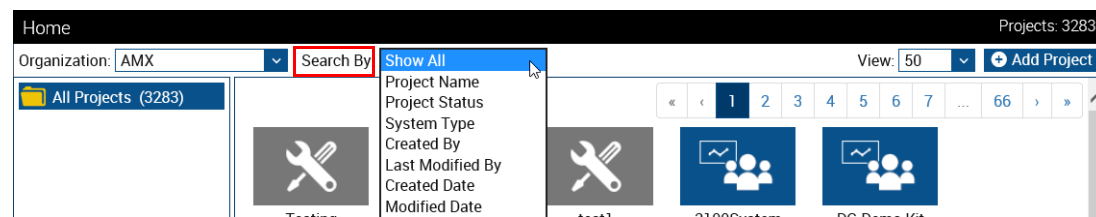

FIG. 45 Search By Drop-Down Menu
2. Select a search criteria from the *Search By* drop-down menu (FIG. 45)
1. Select the **All Projects** folder (or any other folder that contains a Project that you intend to add to the new folder) to populate the Projects view. Use the *Organization* and *Search By* fields to filter the Projects view as needed (see FIG. 45 on page 31).